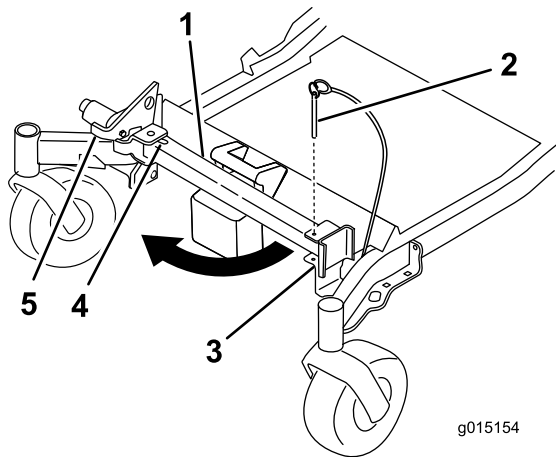
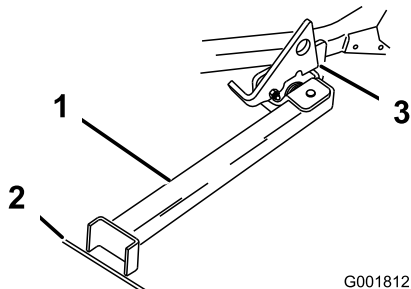

Figure 39
Figure 40
2. Remove the bracket pin (Figure 39).
3. Raise the latch. Swing the stand foot out front and slide stand toward machine, into the bottom of slot (Figure 39 and Figure 40).
4. Set the foot of stand on the ground and rest the latch on the pivot tab (Figure 40).
Note: For best results, place the foot of stand into seams in sidewalks or into the turf (Figure 40).
6. Drive onto the stand. Stop when the latch drops over the tab into the locked position (Figure 40). Once onto the stand, engage the parking brake and turn off the engine.
5. Return the stand to its rest position (Figure 39).